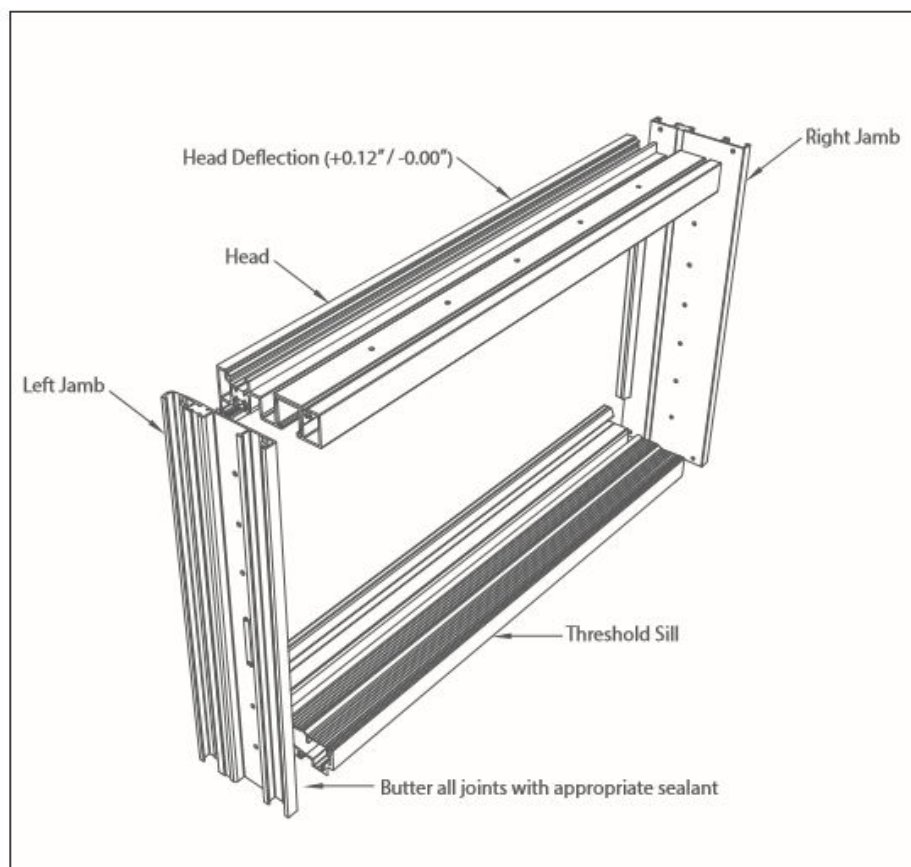

Fig. 1
1. **Frame Components:** Head Assembly, Threshold Assembly, and two Jamb Assemblies. *See Fig. 1:*